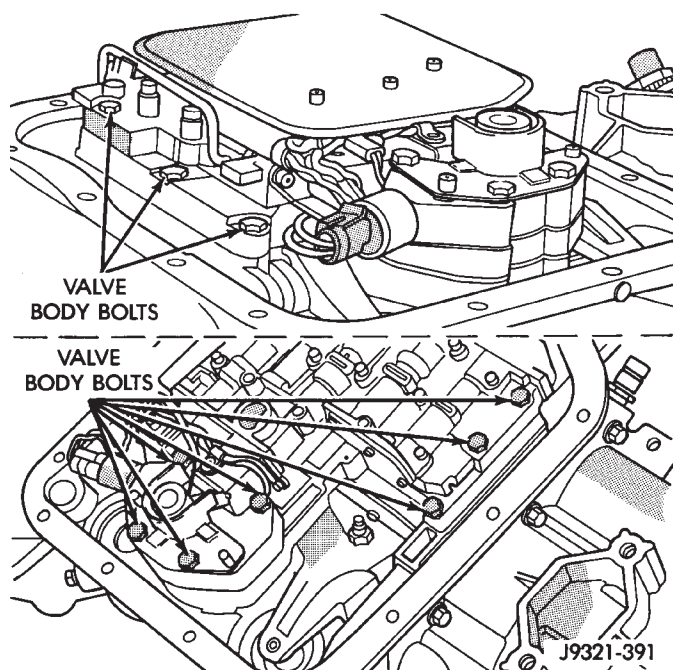

Fig. 131 Valve Body Bolt Locations
(16) Remove hex head bolts attaching valve body to transmission case (Fig. 131). A total of 10 bolts are